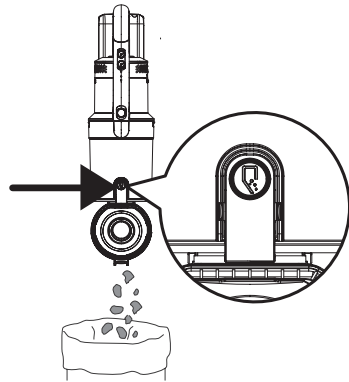

Fig. 10
2. Position the dust container over a refuse bin, then press the lever at the front of the container to open the base (fig. 10) and empty the container. Gently tap the container against the side of the bin to remove any stubborn dust.